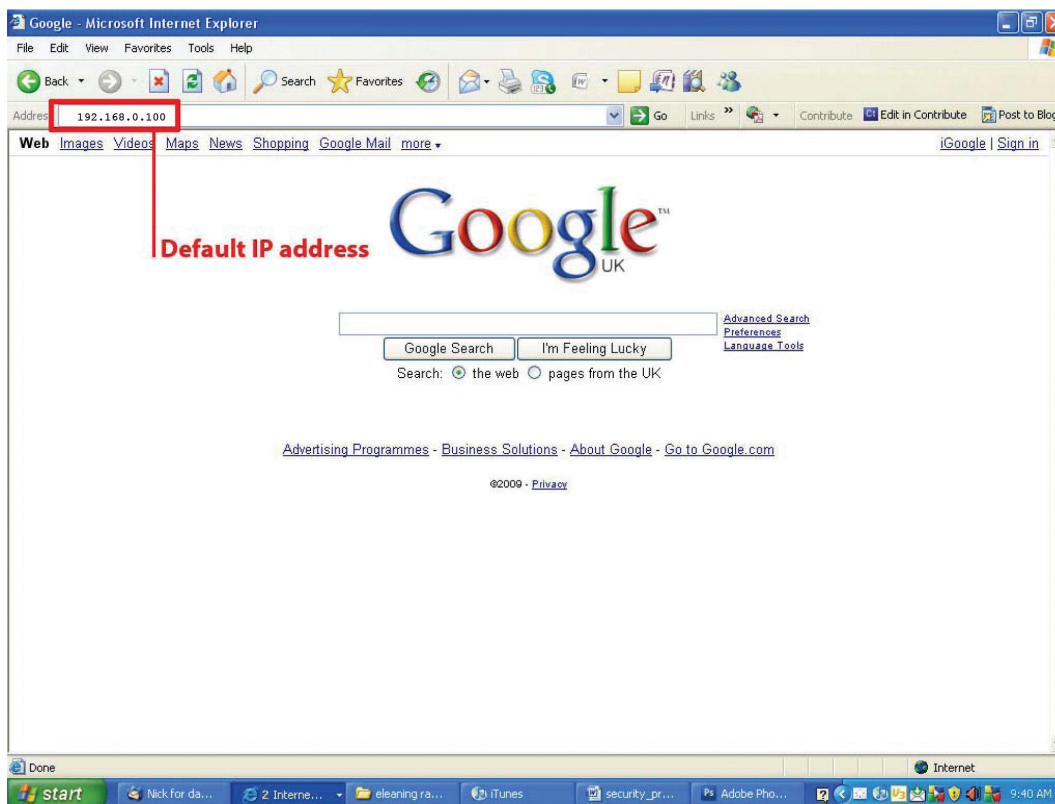

Figure 3-1. Google Web browser screen.
2. Open a Web browser and type the default IP address (as in Figure 3-1), then press the Enter key.